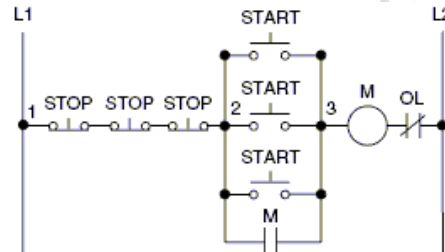

Fig. 16 Momentary Contact with Push Button.
4. Momentary Contact Multiple Push Button Control (3-Wire Control - Fig.16)